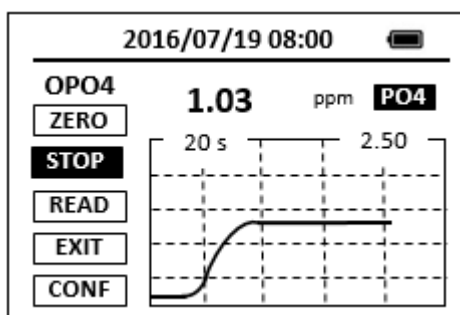

Figure 14 Concentration as a Function of Time
3. Place sample vial back into the sample vial compartment and press the timer button **TMR1**. The SP-910 will start to monitor the reaction between the reagent and the species you want to measure in the water sample. The concentration is shown in the chart as a function of time (Figure 14).
In order to show the concentration-time curve as shown in Figure 14 during the last timing step, The SP-910 must be zeroed using the prepared blank before the last timing step. Thus, the last timer button will not be selectable until the SP-910 has been zeroed using the prepared blank. Multi-timing step Hach® methods require zeroing the colorimeter using the prepared blank after the last timing step is completed. The SP-910 can optionally be re-zeroed using the prepared blank after the last timing step. The blank value measured will be subtracted from the concentration value measured at the end of the last timing step. Optionally, the **READ** button could be pressed to read the prepared sample again.
3. Place the prepared sample into the SP-910 sample vial compartment and press the **TMR2** button to start the second timer. The SP-910 will display the measured concentration as a function of time as shown in Figure 14.